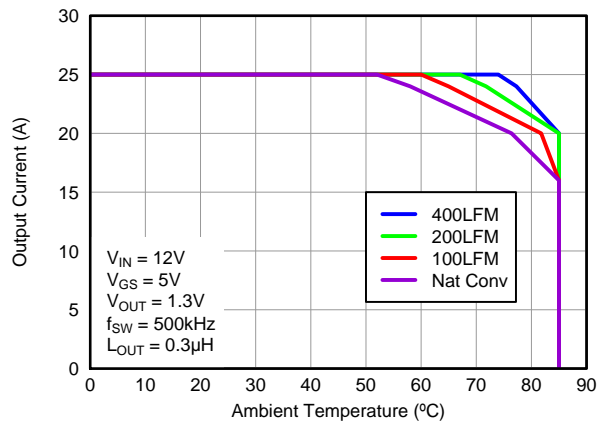
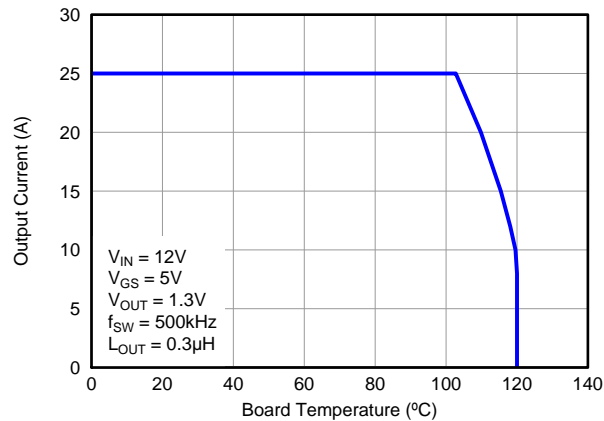

Figure 3. Safe Operating Area – PCB Vertical Mount⁽¹⁾
Figure 5. Typical Safe Operating Area⁽¹⁾
The SOA curves in the CSD87352Q5D data sheet provides guidance on the temperature boundaries within an operating system by incorporating the thermal resistance and system power loss. Figure 3 to Figure 5 outline the temperature and airflow conditions required for a given load current. The area under the curve dictates the safe operating area. All the curves are based on measurements made on a PCB design with dimensions of 4" (W) x 3.5" (L) x 0.062" (T) and 6 copper layers of 1 oz. copper thickness